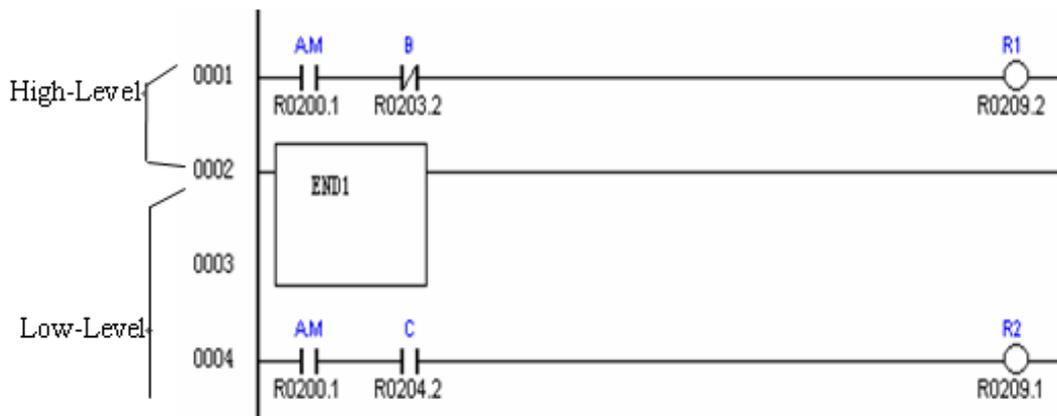

Fig 1
- 1) In fig 1, when R1 is turn on, R2 may not be turn on.